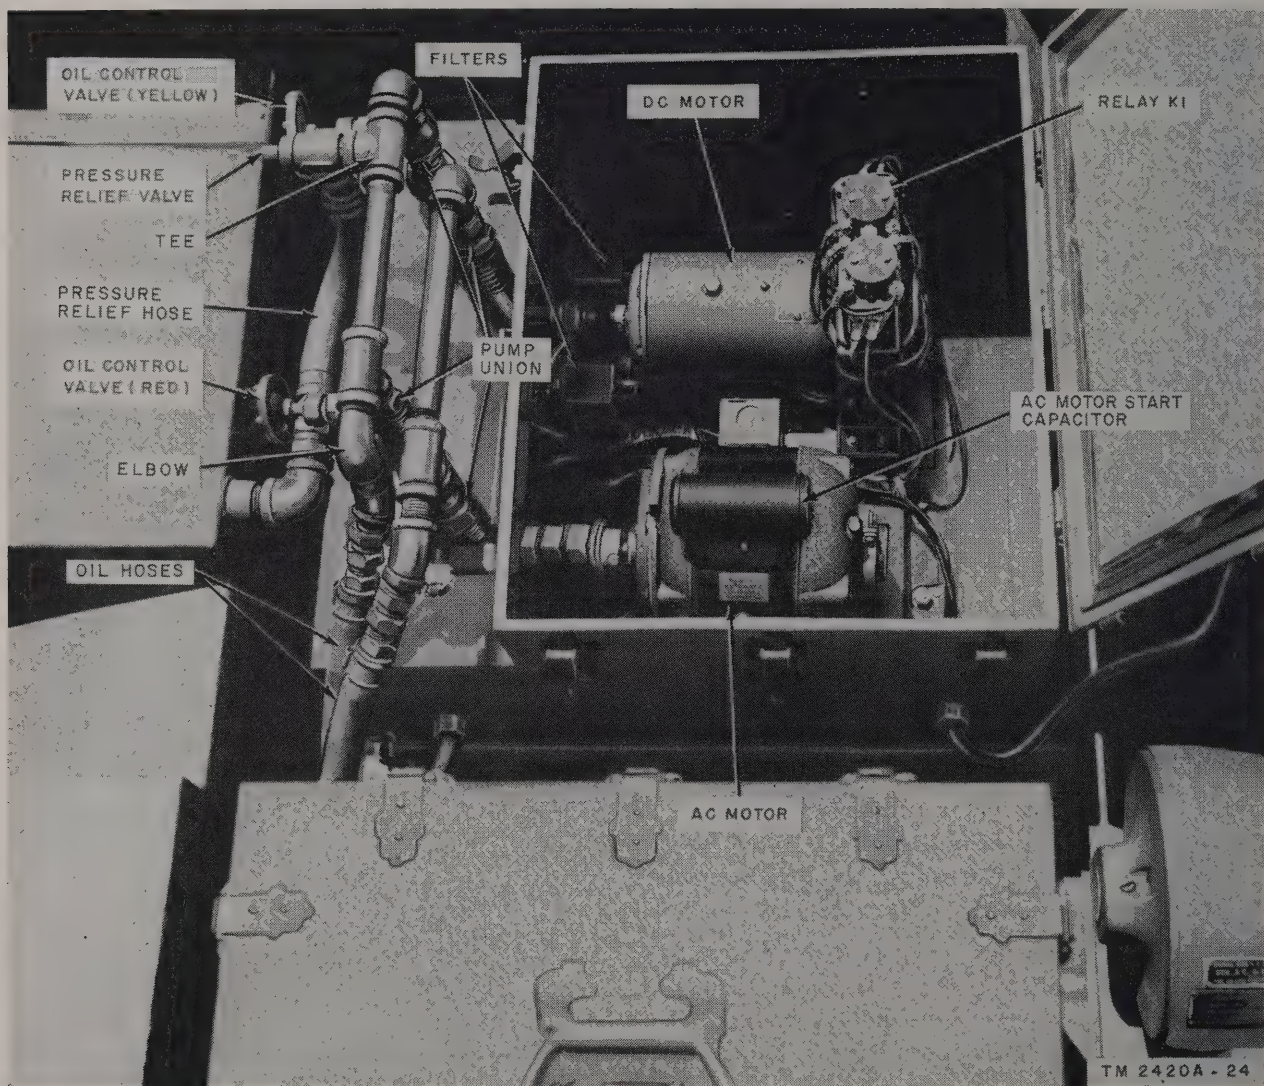

Figure 21. Pump and motor box, interior view.
51. Replacement of Relay K1 Assembly and Ac Motor Start Capacitor (fig. 21)
- (2) Unscrew the mast pressure relief valve from the lower tee.
- (3) Remove the gland nut from the valve and discard the defective valve.
- (4) Install the new valve by reversing the procedures given in (1) and (2) above. Be sure that all connections are tightened securely.
c. Pressure Relief Valve (fig. 21).
- (1) Disconnect the pressure relief hose from the pressure relief valve.
- (2) Unscrew the pressure relief valve from the tee. Remove the hose fitting from the valve. Discard the defective valve.
- (3) Install the new pressure relief valve by reversing the procedure given in (1) and (2) above.
d. Oil Control Valve (Yellow) and Oil Control Valve (Red) (fig. 21).
- (1) Disconnect the pressure relief hose from the pressure relief valve and disconnect the oil hose from the elbow connection.
- (2) Unscrew the retaining nut on each of the pump unions and lift the oil control valve assembly from the motor and pump box.